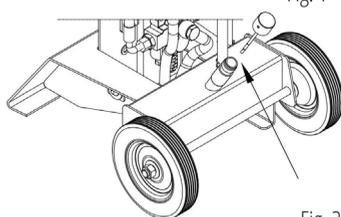
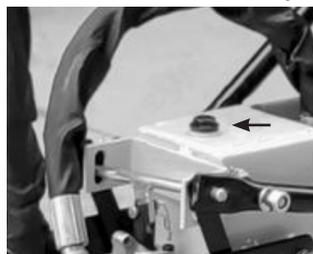

Fig. 1
Fig. 2
4. The model KS 8THE V 55/40 have a vent plug at the machine front side (Fig. 1), model KS 12THE V 65/40 see fig 2. Every time you want to begin your work, you should screw out this plug some four turns to guarantee good air circulation in the oil tank.